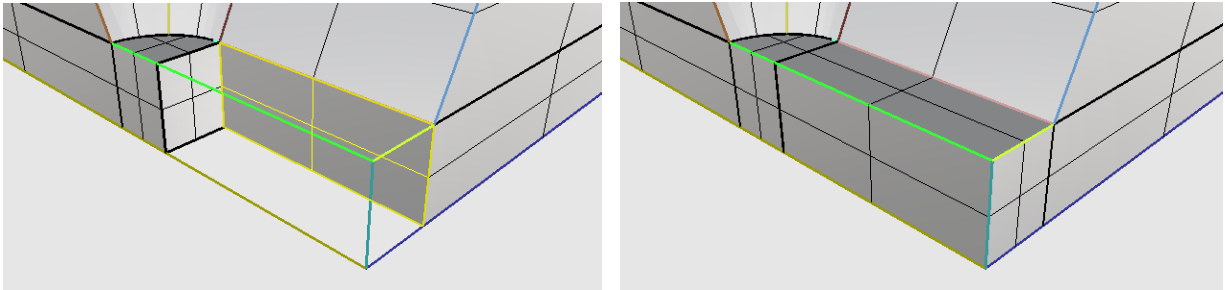

Figure 81: Building the last solid
6. Left-click on **Extract Surface** and click on the **larger** of the two rectangular surfaces bordering the remaining **empty** space (Figure 81, left). Select **Solid|Extrude Surface|Along Curve** and click on any
of the smaller horizontal lines perpendicular and adjacent to the extracted surface, and delete the highlighted surface (Figure 81, right).